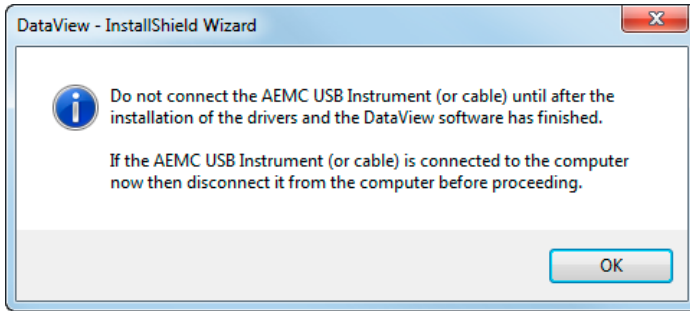

Figure 7-4
13. If the instrument selected for installation requires the use of a USB port, a warning box will appear, similar to Figure 7-4. Click **OK**.